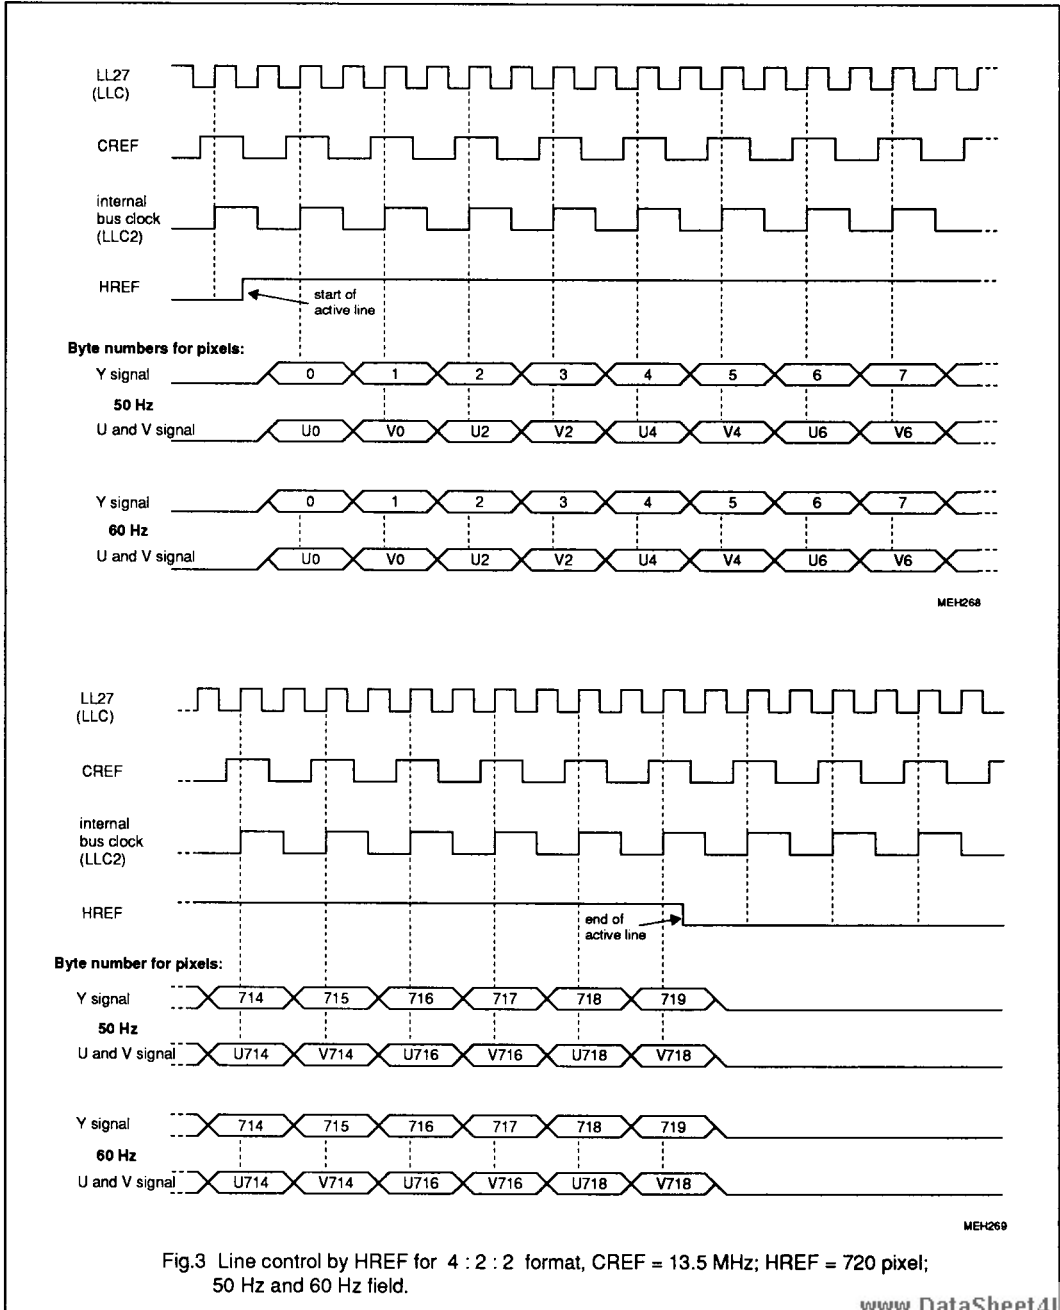

Fig.3 Line control by HREF for 4 : 2 : 2 format, CREF = 13.5 MHz; HREF = 720 pixel; 50 Hz and 60 Hz field.
Data is read with the rising edge of LLC (line-locked clock) to achieve a data rate of LLC at MC = HIGH only. If MC is supplied with the frequency CREF (LLC/2 for example), data is read only at every second rising edge (Fig.3). The 7-bit YUV data are also supported by means of the R78-bit (R78 = 0). Additionally, the luminance data format is converted for internal use into a two's complement format by inverting MSB. The Y input byte (bits Y7 to Y0) represent luminance information; the UV input byte (bits UV7 to UV0) one of the two digital colour-difference signals in 4:2:2 format (Table 2).
The HREF input signal (HREF = HIGH) determines the start and the end of an active line (Fig.3), the number of pixels respectively. The analog output Y is blanked at HREF = LOW, the (B-Y) and (R-Y) outputs are in a colourless state. The blanking level can be set by the BLV-bit. The SAA7164 controllable via the I2C-bus
**Table 2** Data format 4 : 2 : 2. (Fig.3)